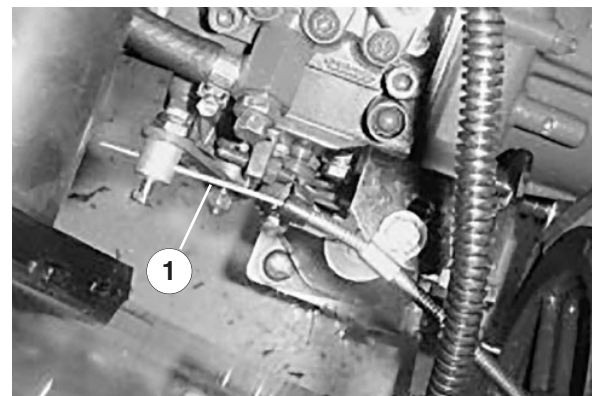

Figure 34
1. Adjust the throttle cable (Fig. 34) so the governor lever on the engine contacts the low- and high-speed set bolts before the throttle lever contacts the slot in the control panel.